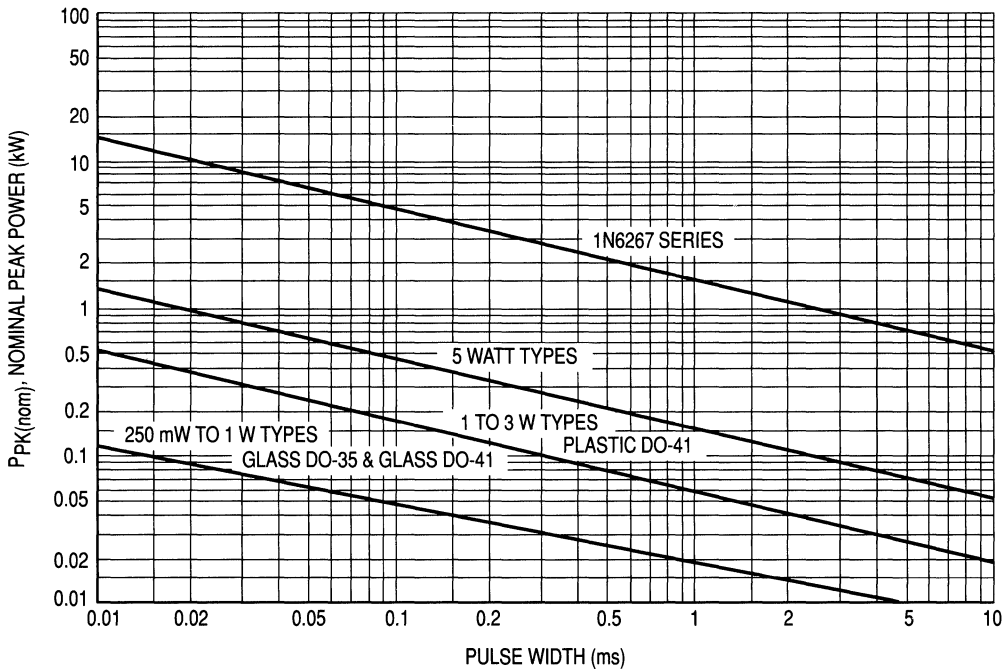
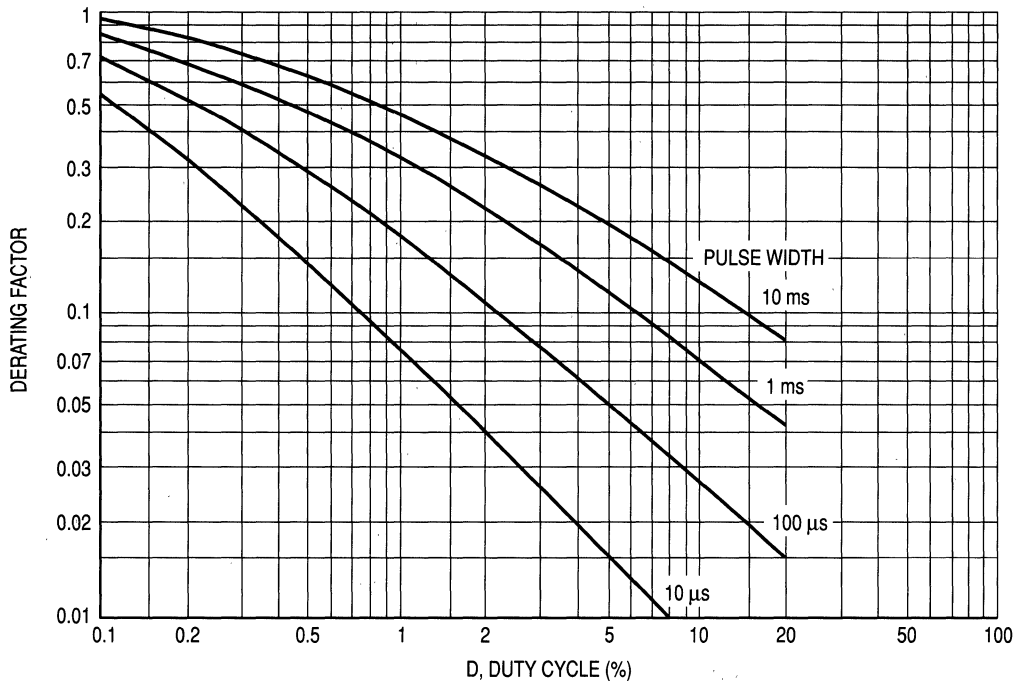

Figure 7-18. Peak Power Ratings of Zener Diodes
Figure 7-19. Typical Derating Factor for Duty Cycle
Some Motorola data sheets such as the ones for devices shown in Table 7-1 contain short pulse surge capability. However, there are many data sheets that do not contain this data and Figure 7-18 is presented here to supplement this information.
Some data sheets have surge information which differs slightly from the data shown in Figure 7-18. A variety of reasons exist for this:
3. Large dice are used, or special tests are imposed on the product to guarantee higher ratings than those shown in Figure 7-18.
The data of Figure 7-18 applies for non-repetitive conditions and at a lead temperature of 25°C. If the duty cycle increases, the peak power must be reduced as indicated by the curves of Figure 7-19. Average power must be derated as the lead or ambient temperature rises above 25°C. The average power derating curve normally given on data sheets may be normalized and used for this purpose.
The peak current will equal the on-state transistor current (5 amperes) and will decay exponentially as determined by the coil  $L/R$  time constant (neglecting the zener impedance). A rectangular pulse of width  $L/R$  (0.01 s) and amplitude of  $I_{PK}$  (5 A) contains the same energy and may be used to select a zener diode. The nominal zener power rating therefore must exceed  $(5 \text{ A} \times 50) = 250$  watts at 10 ms and a duty cycle of  $0.01/2 = 0.5\%$ . From Figure 7-19, the duty cycle factor is 0.62 making the single pulse power rating required equal to  $250/0.62 = 403$  watts. From Figure 7-18, one of the 1N6267 series zeners has the required capability. The 1N6287 is specified nominally at 47 volts and should prove satisfactory.